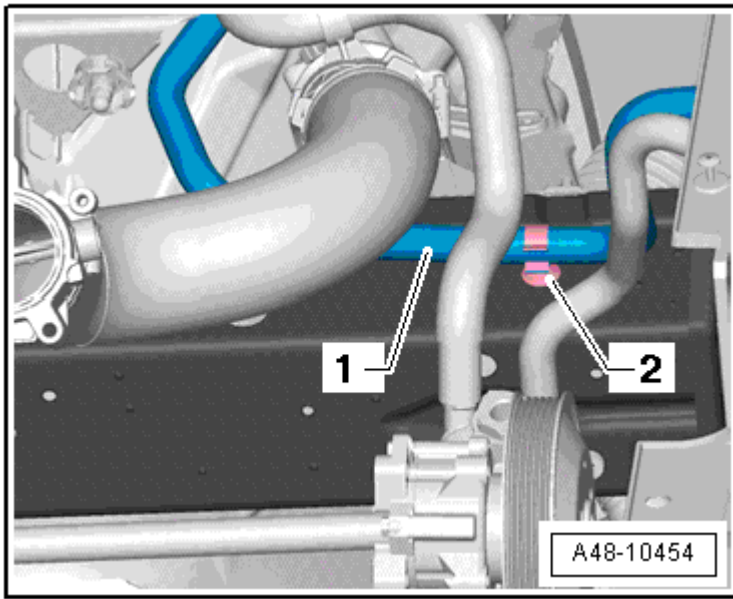
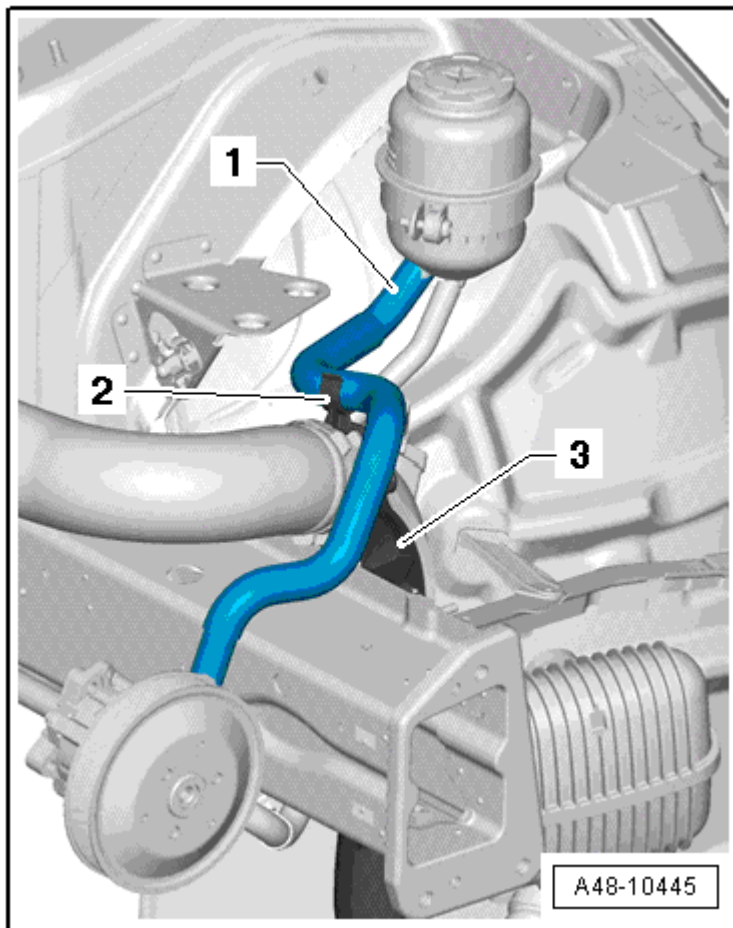

Fig. 21: Return Line Clip To Longitudinal Member
Fig. 22: Intake Hose In Pressure Tube Clip
4. Return line clip to the longitudinal member, refer to **Fig. 21** and intake hose clip to the pressure pipe, refer to **Fig. 22**